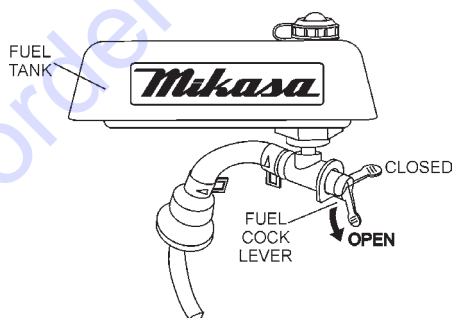

Figure 13. Fuel ShutOff Valve (Open)
1. Open the fuel shut-off valve by moving the fuel cock lever to the open position (Figure 13).